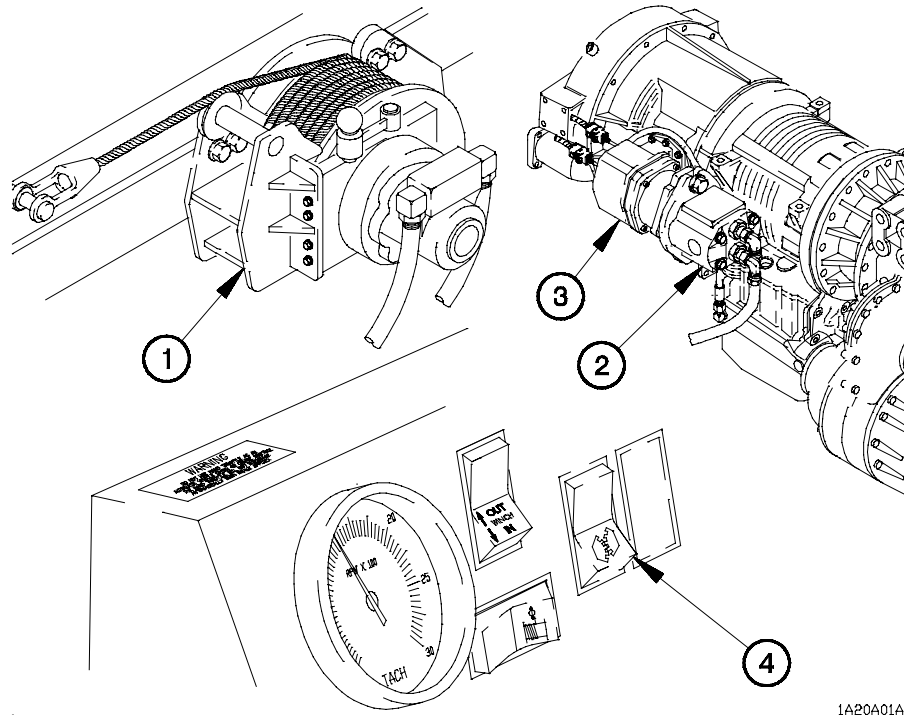

Figure 1-15. 11K Self-Recovery Winch (SRW)
a. 11K Self-Recovery Winch (SRW). When specified, any vehicle may be equipped with a 11K SRW (1) (Figure 1-15) mounted on the right hand frame rail. The 11K SRW is rated for 11,000 lbs (48,924 N) pull when the winch drum has one full layer of cable. Pulling capacity is reduced with each layer of cable added to the winch drum. One full layer of cable is the minimum amount of cable that may be left on the drum when using the 11K SRW. Pulling capacity with seven full layers of cable on the winch drum is 6,780 lbs (30,157 N). For recovery operations, the cable may be routed to the front or to the rear on all vehicles so equipped.
(1) Hydraulic pressure to operate the 11K SRW is supplied by a single stage hydraulic pump (2) mounted on the back of the PTO (3).
(2) Placing the PTO switch (4) in the on position causes the PTO drive gear to engage with the transmission. When the PTO is engaged, it drives the hydraulic pump.